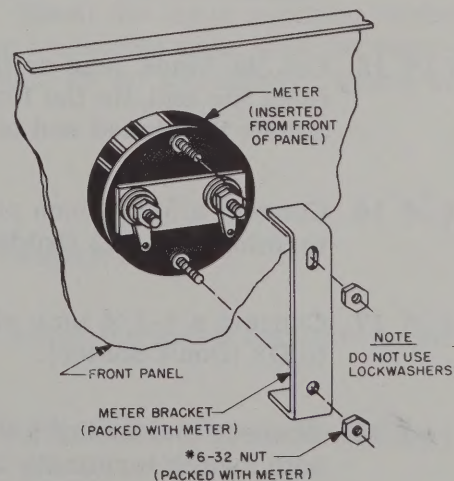

Figure 6
- (✓) 6. Mount the ammeter to the front panel at A, using hardware supplied with the meter. Use method shown in Figure 6. Do not use lockwashers under the mounting nuts.
- (✓) 7. Mount the voltmeter to the front panel at C, using hardware supplied with the meter. Use method shown in Figure 6. Do not use lockwashers under the mounting nuts.